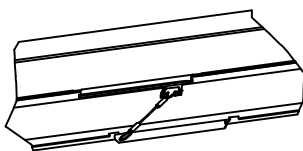

FIGURE 2: TETHERS
- C. Secure LED board to housing by looping tether over "T" lance as shown in Figure 2.